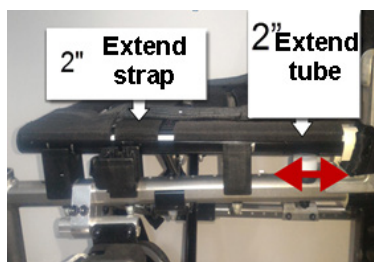

Figure 4.21
4.7.9.1 With 2" extended seat tube set and 2" deep extension webbing, the seat depth is 14". (See Figure 4.21)